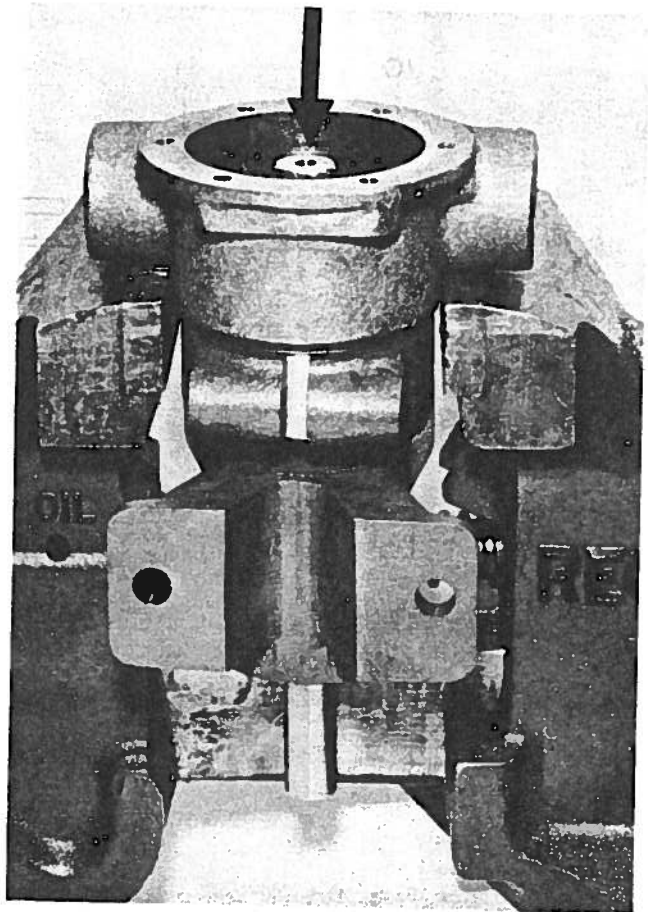

Figure 14
8. Place the pump in a vice supporting the water outlets, remove the pinch bolt which clamps the pump housing to the bearing housing. Tap the shaft arrowed in Fig. 14 lightly in a downwards direction, this will separate the two castings of the assembly and also remove the shaft from the seals in the pump.